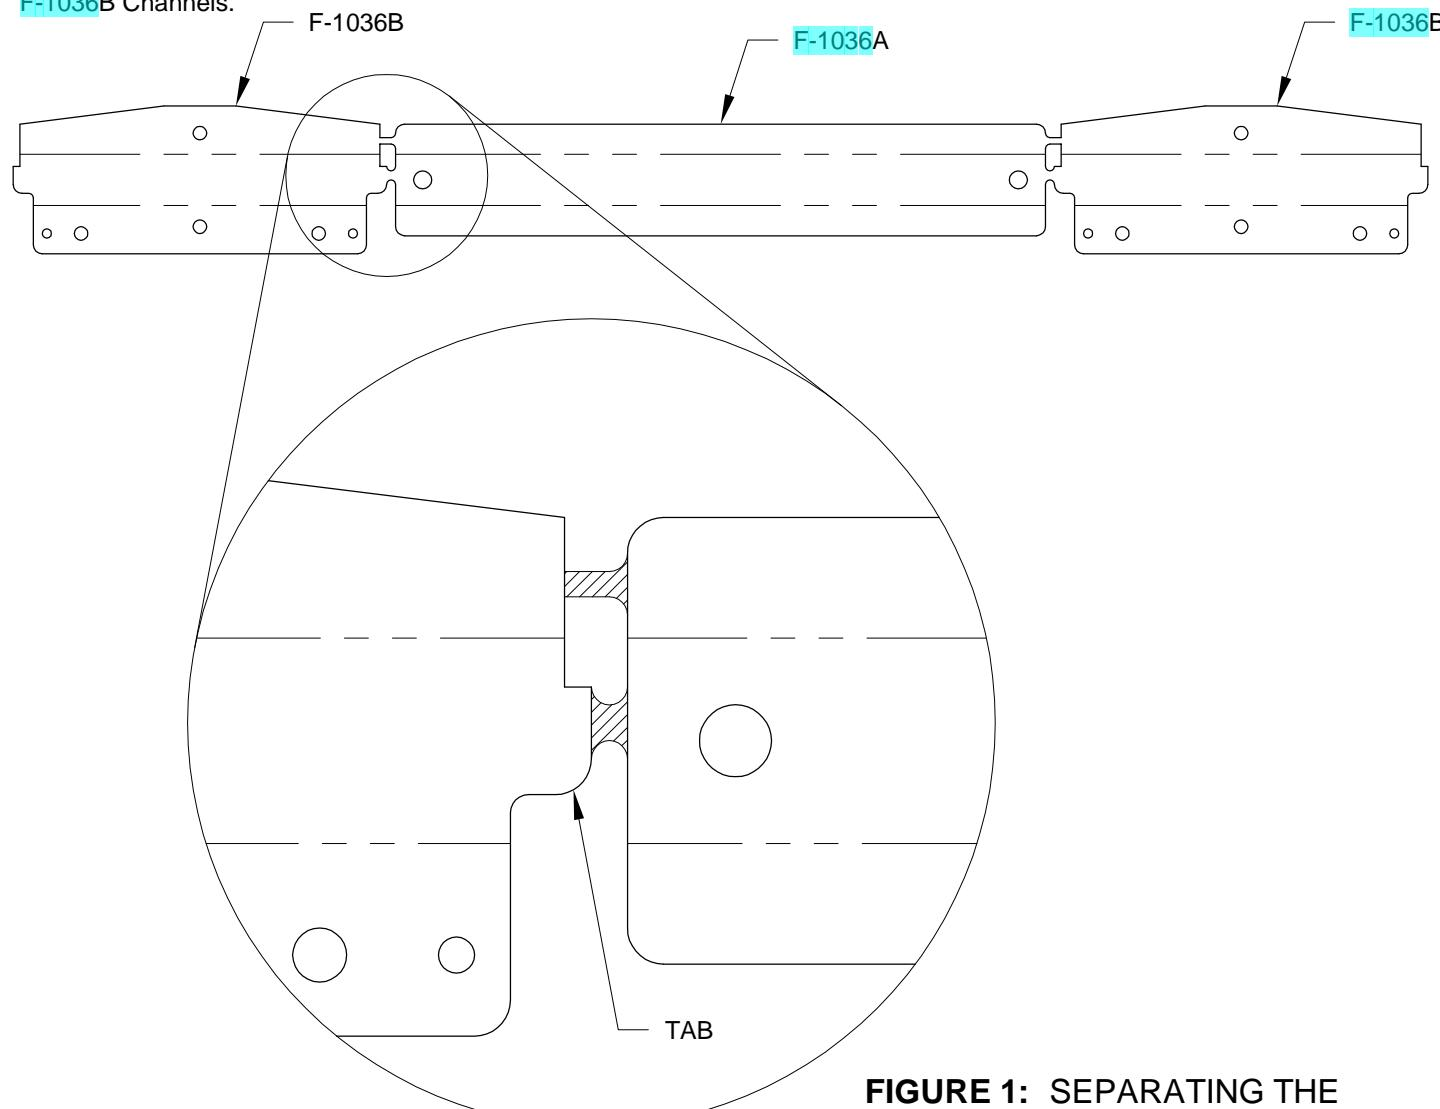

FIGURE 1: SEPARATING THE F-1036 BATTERY CHANNEL
Step 3: Dimple all the #40 holes in the skins except for the following: the holes used to secure the F-1094A & B Empennage Gap Covers and Fairing (see Page 10-25, Figure 1); the holes associated with the F-1006 Bulkhead; the holes in the triangular portion of the F-1073-L Side Skin; the 1/8" holes in both side skins which are used for the static source (see Page 10-14, Figure 1); and the center (screw) hole of the three sets of empennage fairing attachment nutplate holes in the F-1075 Aft Top Skin (see Page 10-12, Figure 2).
Step 6: Separate the F-1036 Battery Channel (shown unbent for clarity) into the parts indicated in Figure 1. The blowup in the figure shows the material which needs to be removed to separate the parts. Be careful not to remove the small tab on both sides of the F-1036B Channels.